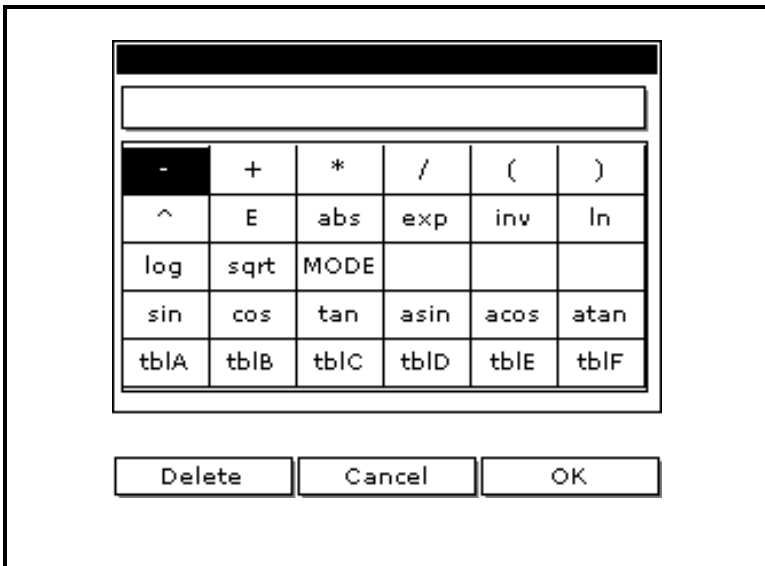

Figure 4-8: The Function Creation Window
1. Use the arrow keys to move to the blank box at the bottom of the screen and press [ENTER]. A screen similar to Figure 4-8 on the next page appears.